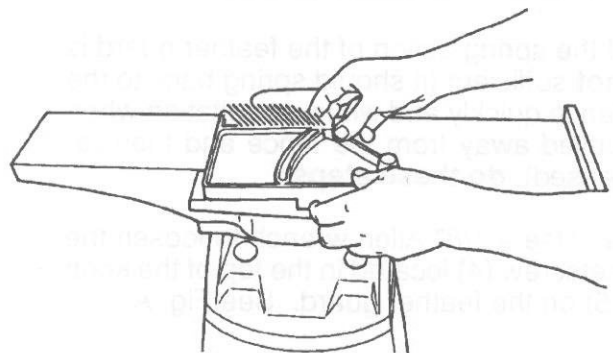

Fig. 14
23. Starting with the feather guard parallel with the jointer, as demonstrated in Fig. 14, rotate the feather guard counter-clockwise 1-1/2 turns. Hold the guard by hand (or use a clamp as a stop).